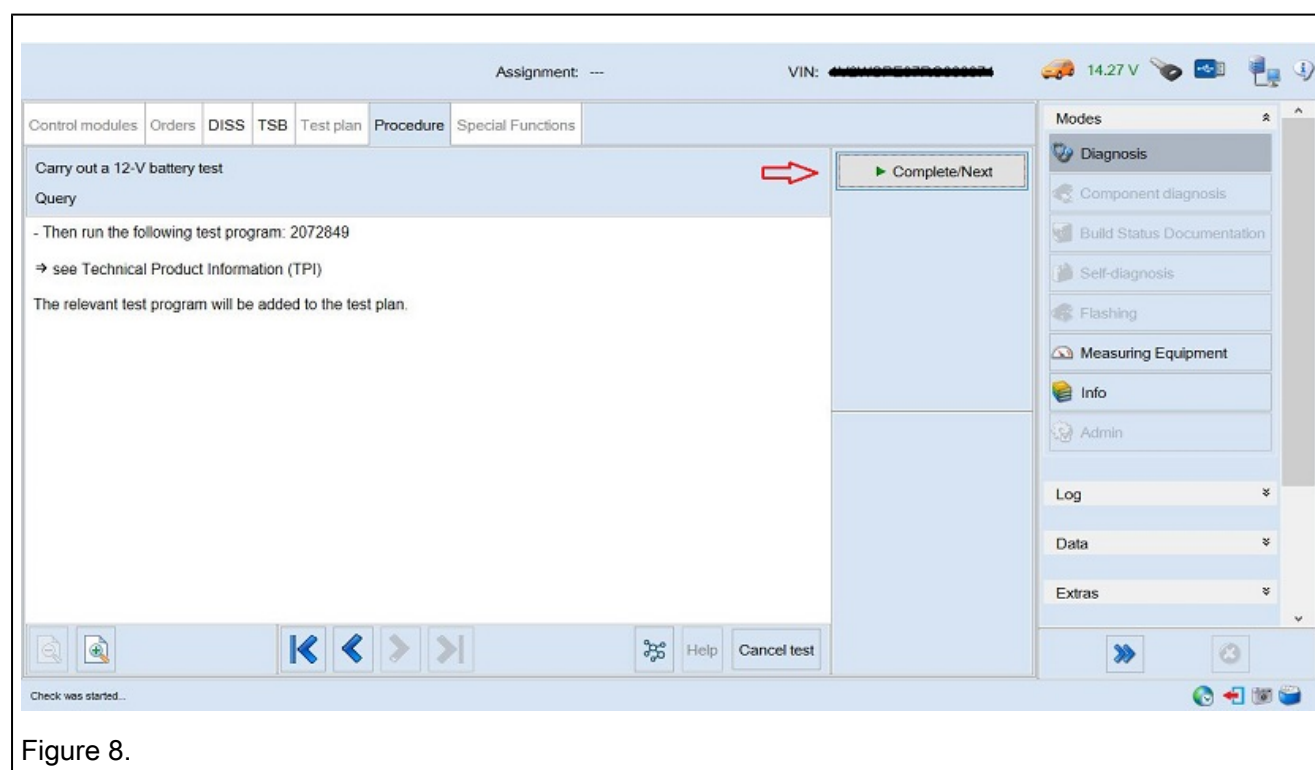

Figure 8.
8. In order to perform the 12V battery test, you must add test program 2072849 and depress the Complete /Next button (Figure8).